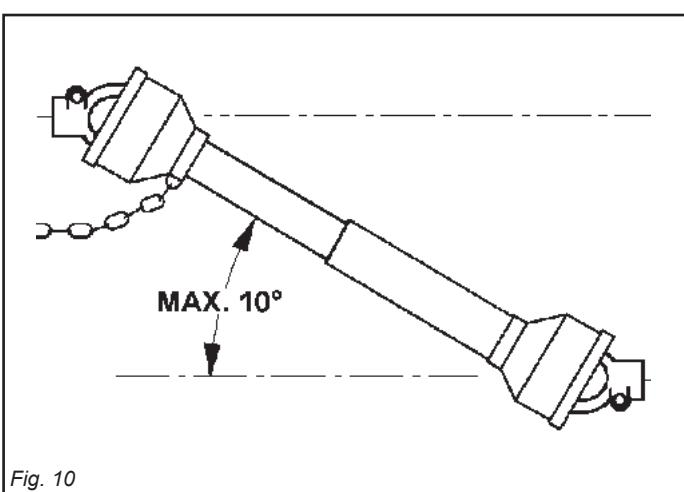

Fig. 10
- 43) Always disengage the pto when the cardan shaft is set at an excessively open angle (never beyond 10 degrees - Fig. 10) and when it is not in use.